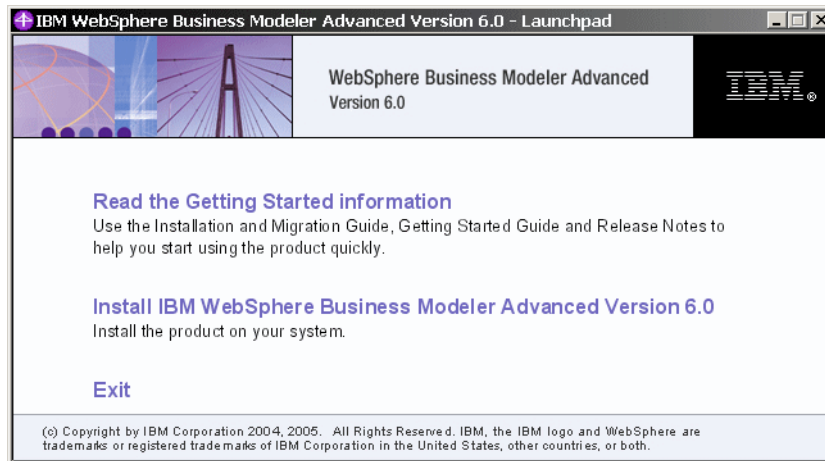

Figure A-1 WebSphere Business Modeler Launchpad
- ▶ In the Launchpad select *Install IBM WebSphere Business Modeler Advanced Version 6.0* (Figure A-1).